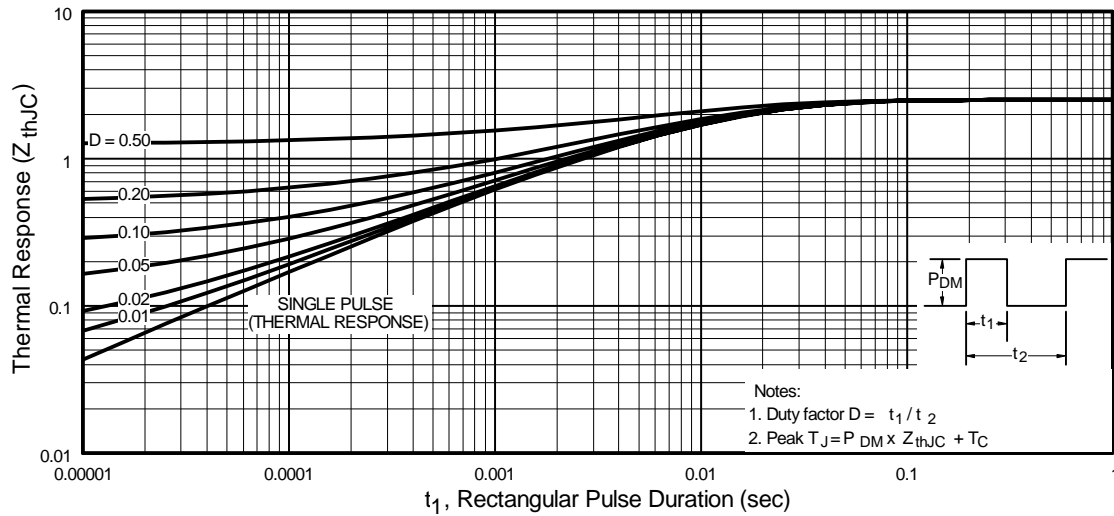

Fig 11. Maximum Effective Transient Thermal Impedance, Junction-to-Case
① Repetitive rating; pulse width limited by max. junction temperature. (See fig. 11)
② Starting T_J = 25°C, L = 57mH